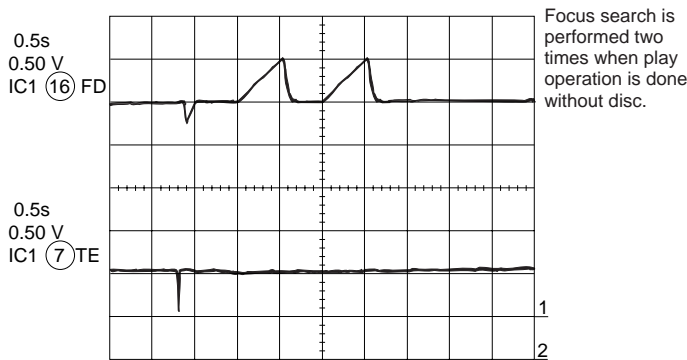

Figure 38
Does the output waveform of IC1(16)(FD) match that shown in Fig. 38?